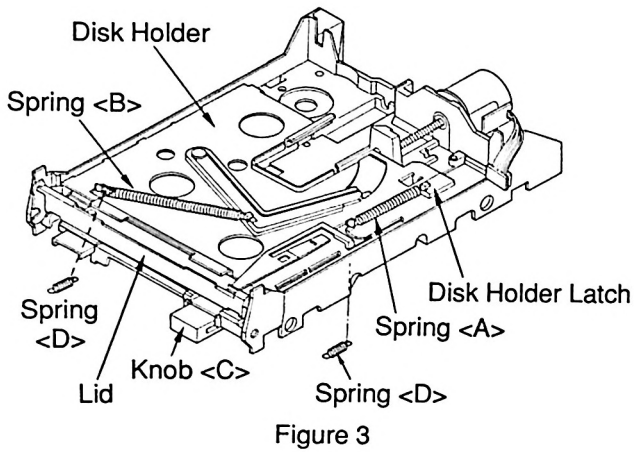

Figure 3
- 1) Remove one disk holder latch spring <A> and one holder lever spring from the chassis unit as shown in Figure 3.
- 2) Push the knob and remove the disk holder assembly as shown in Figure 3.
- 3) Remove the disk holder latch and two disk holder springs from the disk holder assembly as shown in Figure 3.
- 4) Remove the lid from the disk holder assembly in Figure 3.